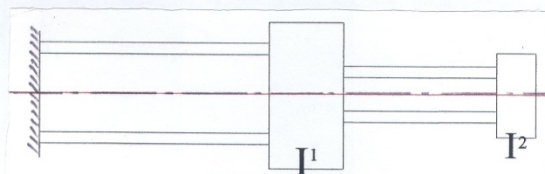

Figure 10
- 15- A hollow steel shaft of outer diameter 5 cm., inner diameter 3.75 cm., and length 75 cm., carries a solid disc of diameter 40 cm and mass 50 kg. Another hollow steel shaft of length 50 cm., carrying a solid disc of diameter 16 cm., and mass 10 kg, is attached to the first disc as shown in Figure 10. Find the inner and outer diameters of the shaft such that the attached shaft and disc system acts as an absorber. (The two shafts have the same diameter ratio)